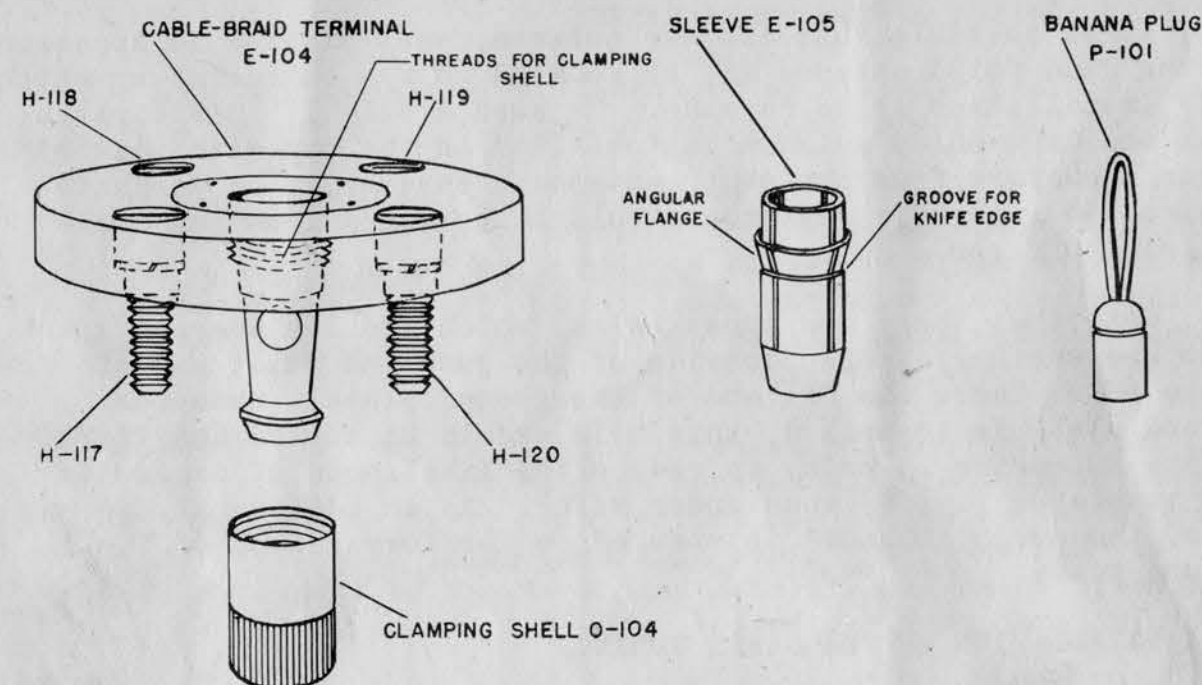

Fig. 2-4 Parts of Cable-Braid Terminal Assembly, Sleeve, and Banana Plug
Fig. 2-4 shows the cable-braid terminal E-104, the screws H-117 thru H-120, the clamping shell O-104, (making up the cable-braid terminal assembly), the sleeve E-105, and the banana plug P-101.
(D) Note that the sleeve E-105, as shown in Fig. 2-4, has an angular flange, the lower end of which forms a groove for the insertion of a knife edge. The fanned-out braid is to be cut around this groove, which serves as a guide just at the top surface of the cable-braid terminal. A neat way of removing most of the braid is to divide the fanned-out strands into two sections, each a compact bundle.